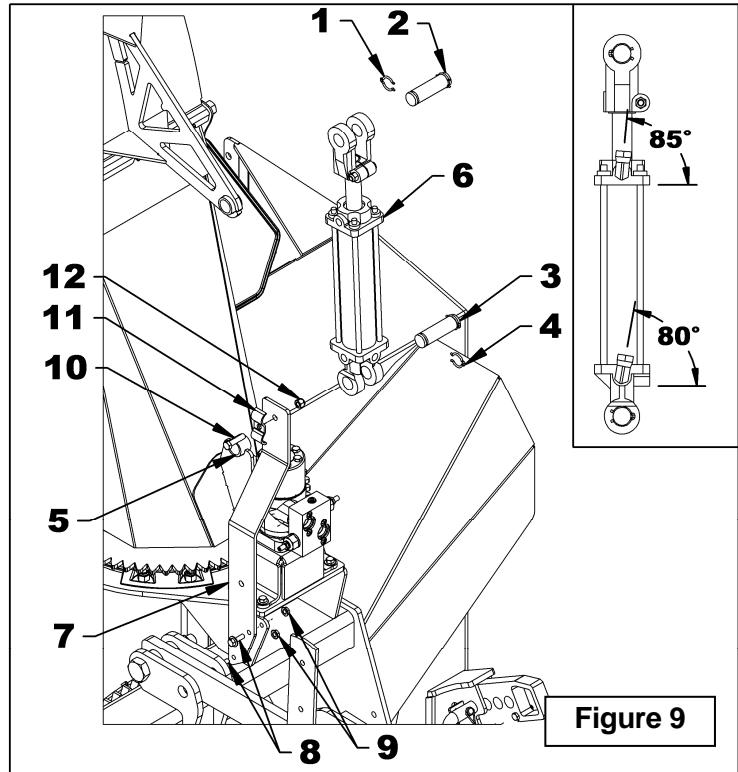

Figure 9
- Figure 9:** Remove a circlip (items 1-4) from each cylinder pin (items 2-3) and remove the pins. Placing the hydraulic ports in the position shown on figure, attach the fixed end of the cylinder (item 6) to the chute base (item 5) and the rod end to the deflector with the pins and circlips.
- Figure 9:** Install the male end of the two elbow flow restrictors on the cylinder ports, pointing up the outputs and at the angles shown in figure.
- Figure 9:** Install the hose support (item 7) using two 5/16"NC x 1" serrated flange bolts and 5/16"NC serrated flange nuts (items 8-9).
- Figure 9:** Attach the hose clamp (item 11) with a 3/8"NC x 1 1/2" bolt and 3/8"NC nut (items 10 & 12). Do not tighten.